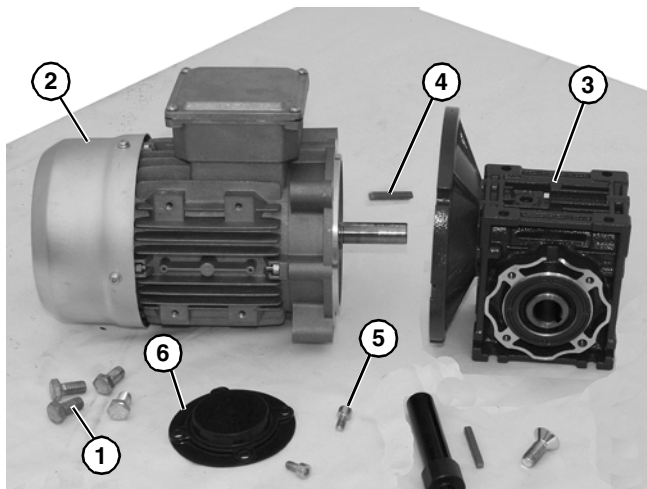

Figure 29
5. Remove four screws (**Figure 29, item 1**). Detach motor (**Figure 29, item 2**) from gear reducer (**Figure 29, item 3**). Retain motor output shaft key (**Figure 29, item 4**).
6. Remove two (2) screws (**Figure 29, item 5**) and detach output shaft cover (**Figure 29, item 6**).
7. Apply anti-seize to motor shaft before assembling to gearbox. With key (**Figure 29, item 4**) in keyway, slide motor (**Figure 29, item 2**) and gear reducer (**Figure 29, item 3**) together. Install screws (**Figure 29, item 1**) and tighten.
8. Install output shaft cover (**Figure 29, item 6**) and secure with two (2) screws (**Figure 29, item 5**).
4. Apply anti-seize to motor shaft before assembling to gearbox. With key (**Figure 29, item 4**) in keyway, slide motor (**Figure 29, item 2**) and gear reducer (**Figure 29, item 3**) together. Install screws (**Figure 29, item 1**) and tighten.
5. Install output shaft cover (**Figure 29, item 6**) and secure with two (2) screws (**Figure 29, item 5**).